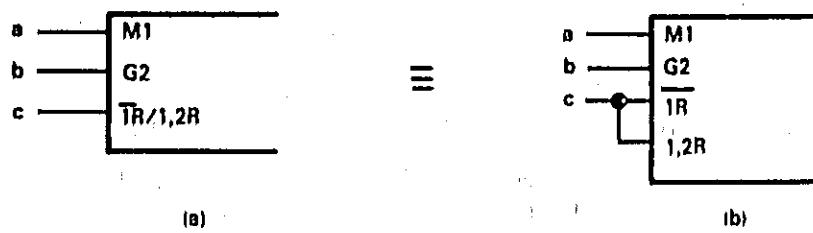

Figure 2. Dependency Notation Layout
3. If an input performs several different functions, each may be described on separate input lines or on the same line with each effect separated by a slanted line (/). Figure 2 illustrates these two formats. In Figure 2(a) input c,
- a reset line is active when input c is high or $/c$ when inputs a and b are high. Figure 2(b) illustrates the same idea, but separates the two conditions showing them as separate inputs rather than combining them.